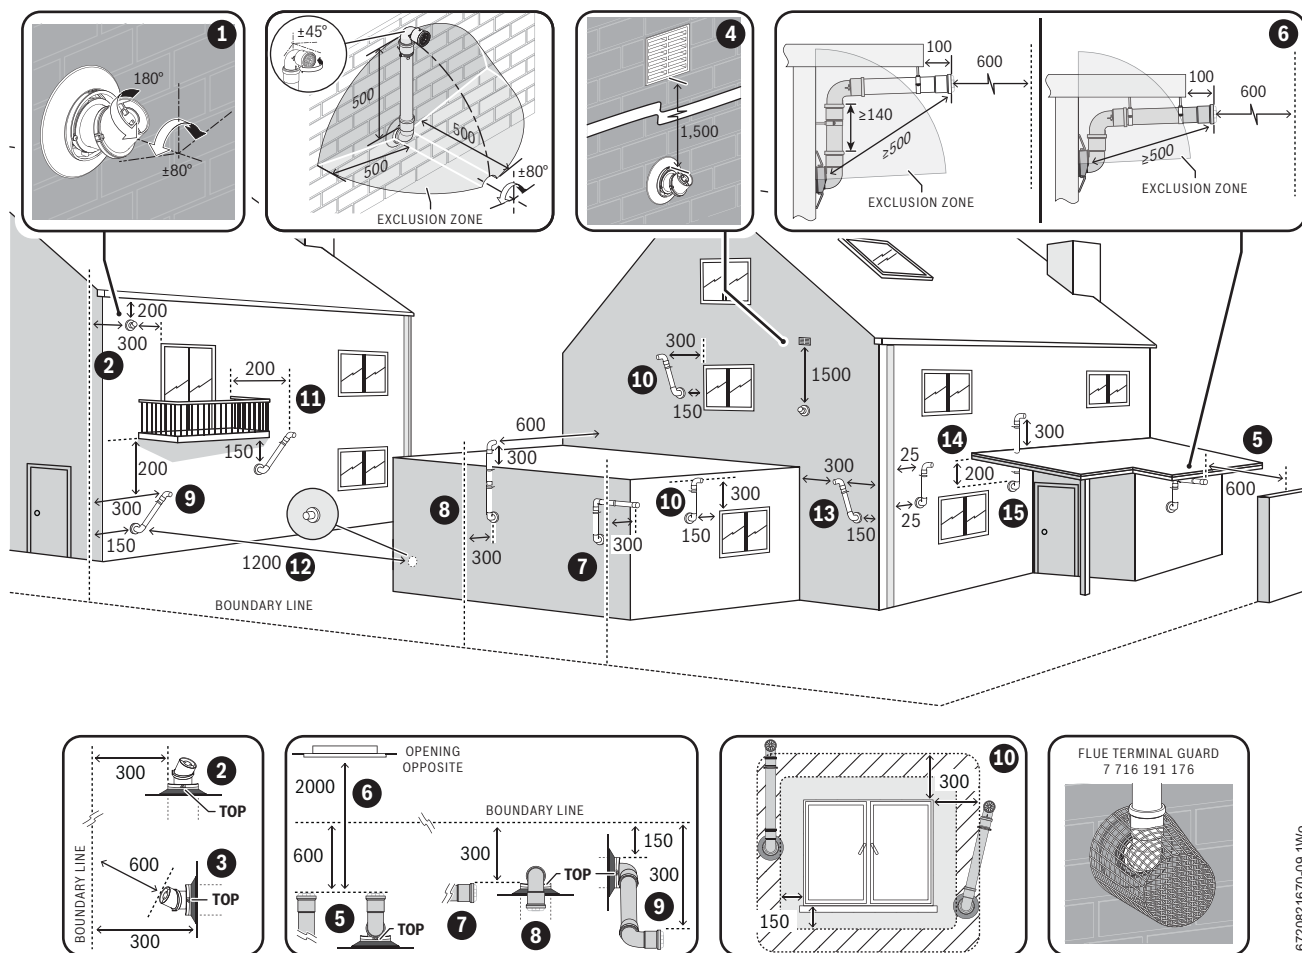

Fig. 23 Plume re-direct and plume management terminal positions
- ▶ Refer to "Horizontal flue terminal positions" for all concentric flue terminal positions unless the flue position is specified in figure 23 for "Plume re-direct and plume management terminal positions".
**Key to Figure 23 - Plume re-direct terminal positions:**
**Key to Figure 23 - Plume management terminal positions:**